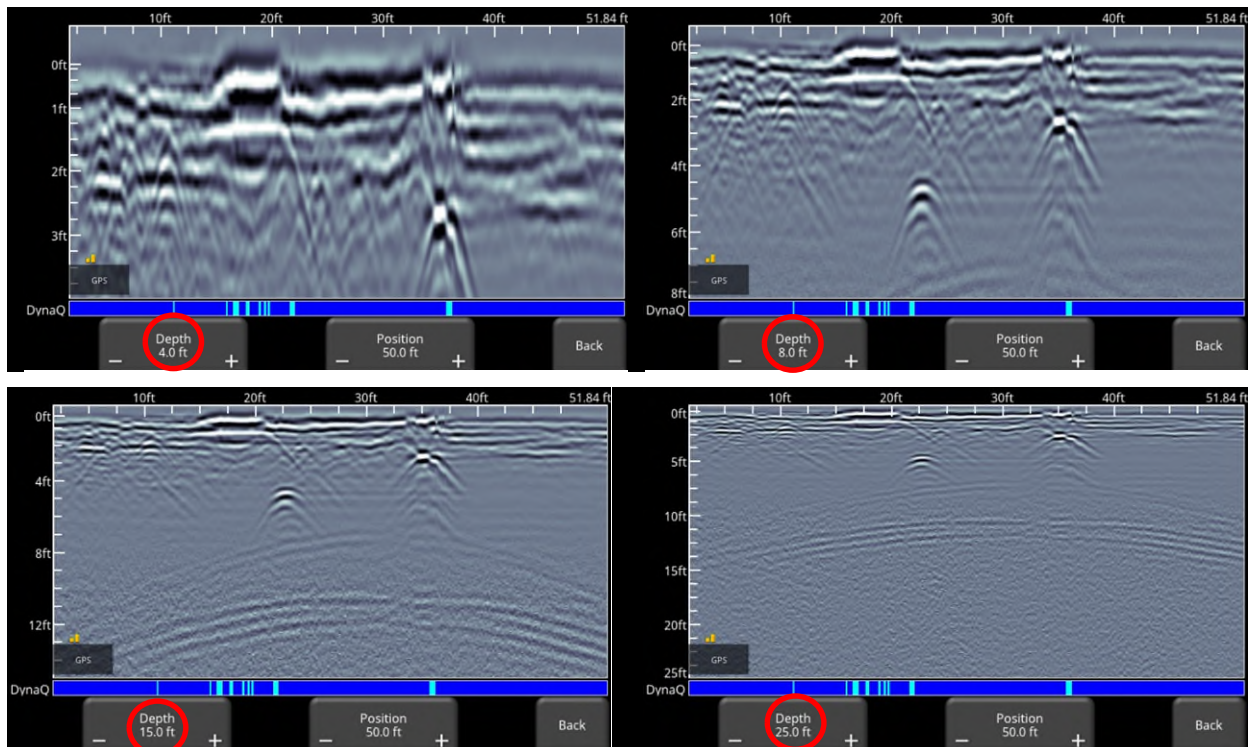

Figure 6-11: Varying displayed depth
- **Depth** – Pressing **+** and **-** under the **Depth** button allows you to change the display depth of the data. This is commonly referred to as the depth window. The pre-set values range from 1m to 8m (4' to 30'), see Figure 6-11.